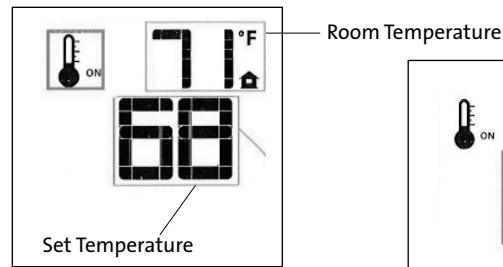

Figure 74. Thermostat ON.
- To activate this function, press the Thermostat Key. The display will indicate that the room thermostat is “ON” and the current Set Temperature is now displayed. Fig. 74.